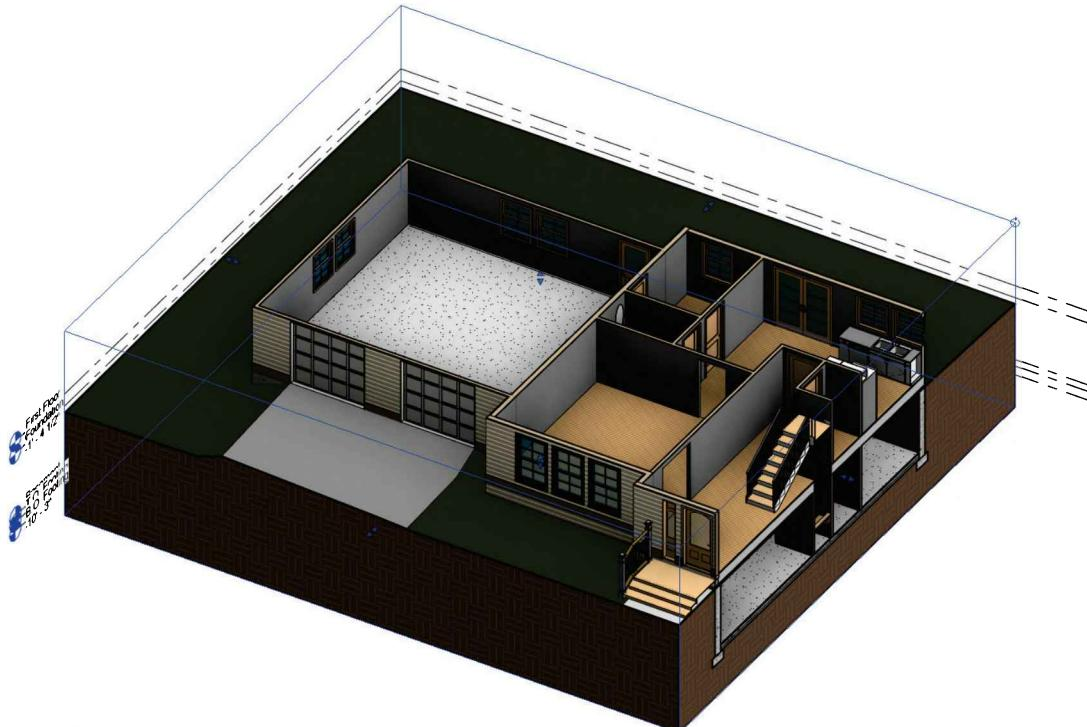

FIGURE 14-3.2 3D view with adjusted Section Box
5. To practice using the **Section Box**, drag the grips around until your view looks similar to Figure 14-3.2.